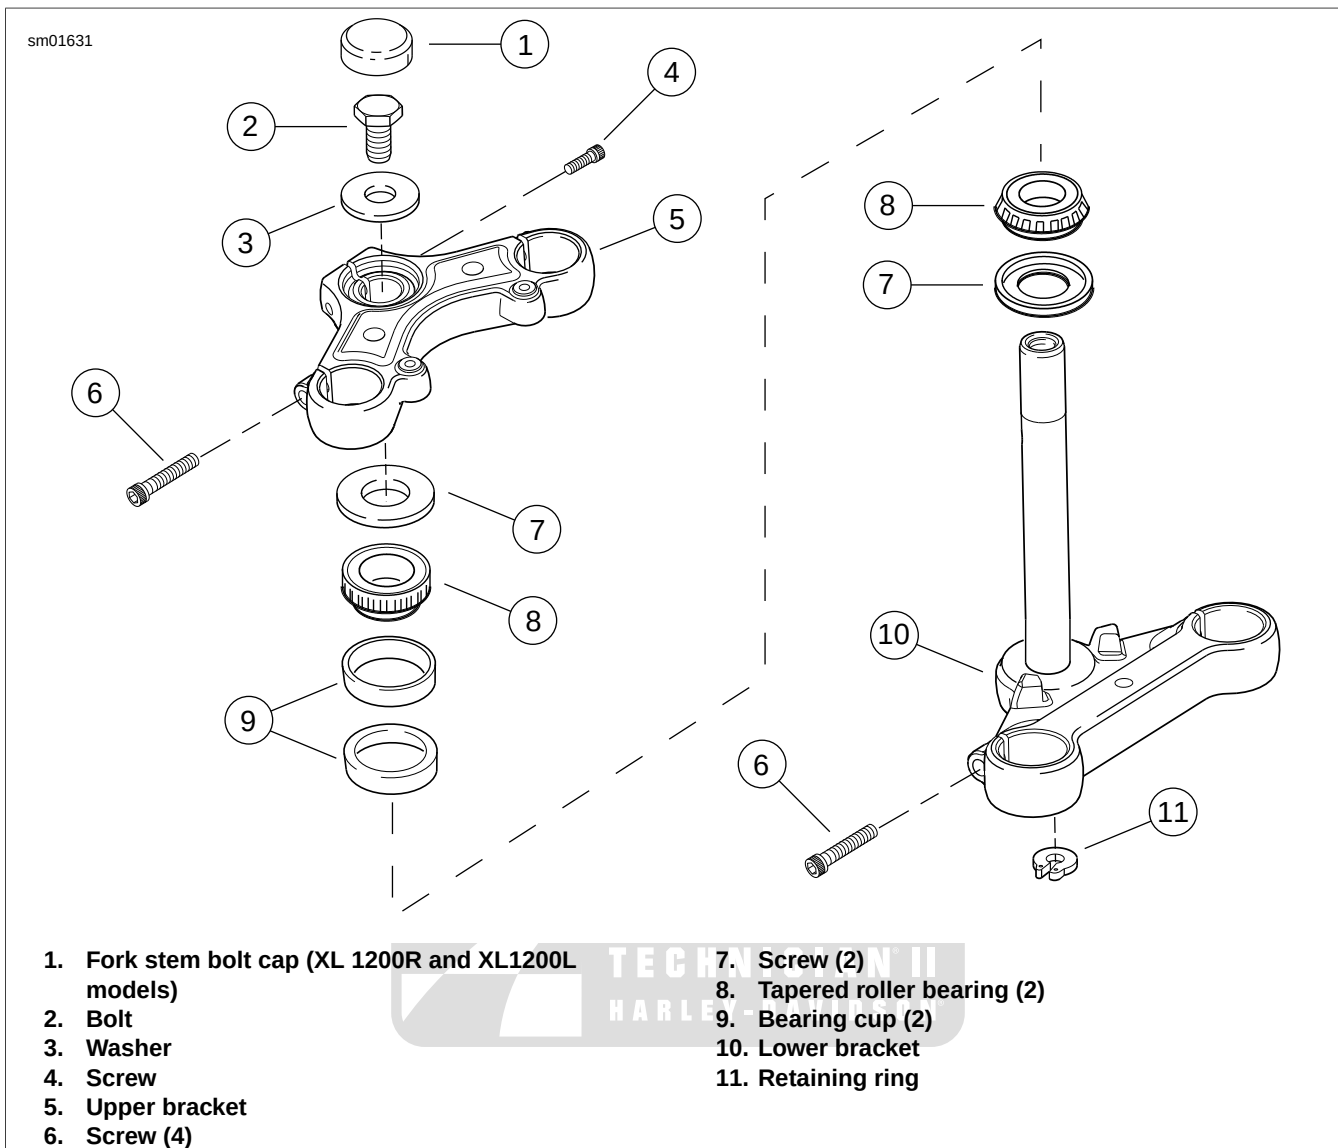

Figure 1-73. Steering Head Assembly (typical; XL model shown)
7. See Figure 1-73. If the distance is not correct, perform the following procedure:
- a. Loosen the two lower bracket pinch screws (6) and the fork stem pinch screw (4).
- b. Remove fork stem bolt cap (1) (XL 1200R and XL1200L models).
- c. Loosen or tighten the fork stem bolt (2) until the "fall-away" distance is 1.0-2.0 in. (25-50 mm) for XL models or 2.0-4.0 in. (50-100 mm) for XR models.
See Figure 1-73. Disassemble the steering head assembly and lubricate the tapered roller bearings (8) with HARLEY-DAVIDSON SPECIAL PURPOSE GREASE. See 2.23 FORK STEM AND BRACKET ASSEMBLY for disassembly and reassembly procedures.